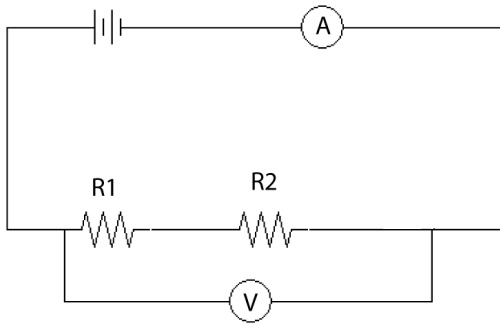

FIG. 12: Schematic for two resistors connected in series.
4. Wire up the circuit shown in Fig. 12 and have your instructor check the connections. Adjust the power supply so that the voltmeter reads 5 V. How does the current compare with what you predicted in part 3?